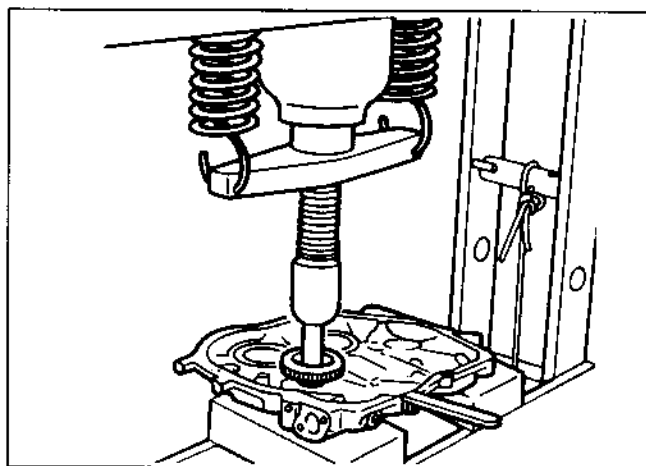

FIG. 50
- Press the iron sleeve of governor gear using a pressing machine to fit on the governor gear shaft. (See Fig. 50.)